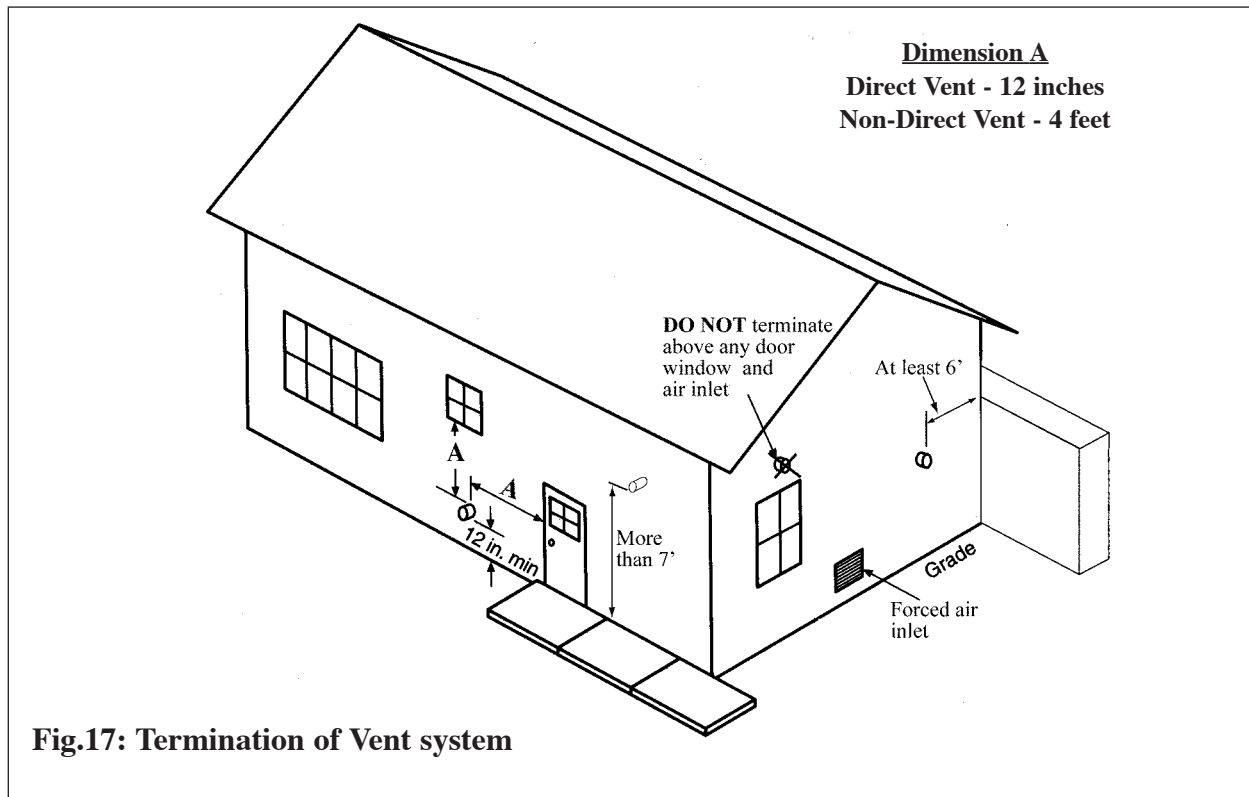

Fig.17: Termination of Vent system
- Must maintain 12-inch clearances below and horizontally from doors and windows. See dimension A Fig. 17.
- Must maintain 4 feet of clearance below and horizontally from doors and windows. See dimension A Fig. 17.